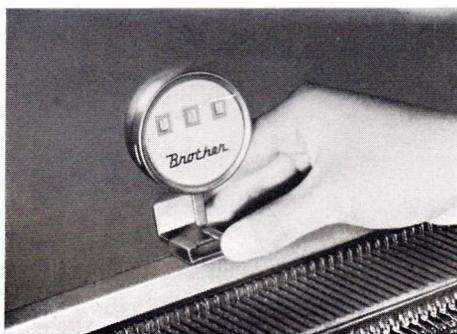

Fig. 13
- a. Set the row counter in one of the brackets you like on the rear cover of the needle bed. (See Fig.13)